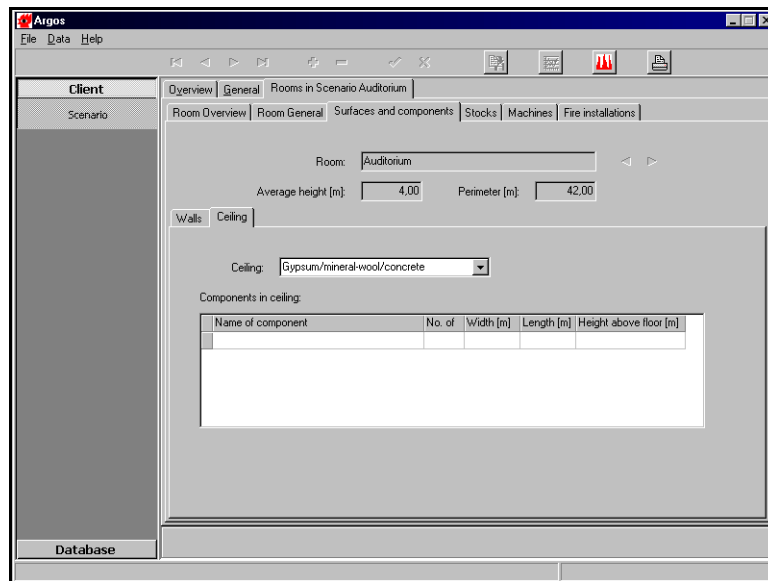

Figure 4.5: The Surfaces and components tab –Ceiling subtab.
- The ceiling is identified as a *Gypsum/mineral/concrete* type of ceiling. There are no additional components in the ceiling. On the *Ceilings* subtab, enter the type of ceiling, as shown in figure 4.5. Components, such as skylights, can be subsequently added.